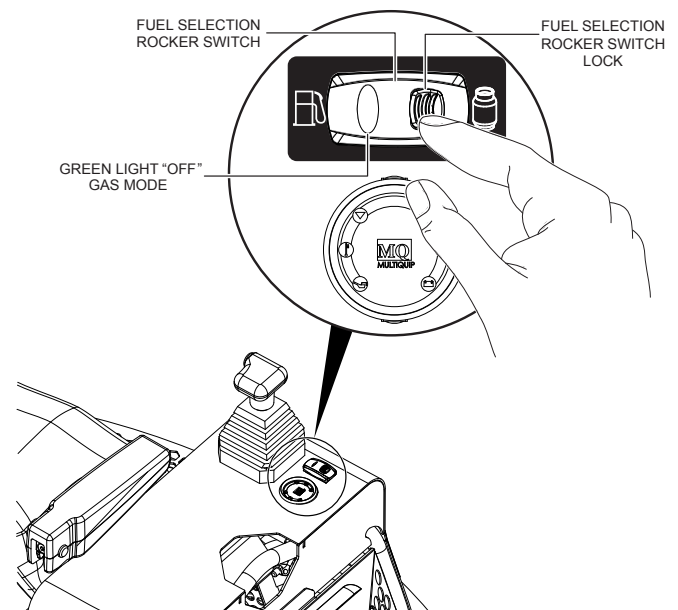

Figure 19. Fuel Selection Switch (Gas Mode)
5. Slide the rocker switch lock (Figure 19) to the left and hold. This unlocks the fuel selection rocker switch.
6. To select **GAS** mode, press down on the left side of the fuel selection rocker switch. The **GREEN** light is **OFF** (Figure 19).